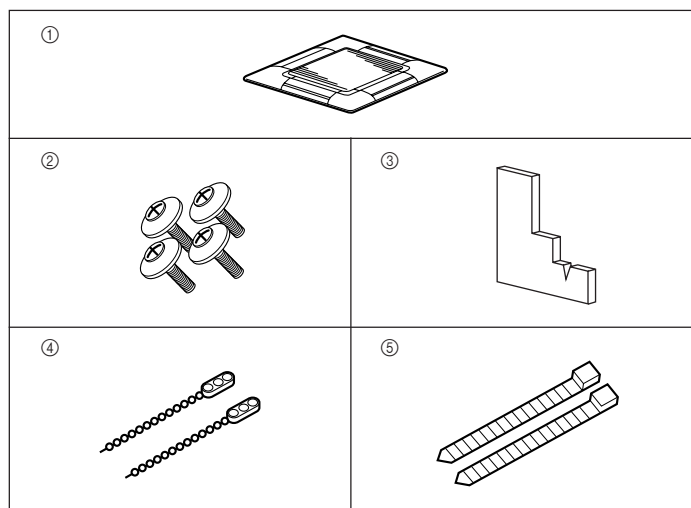

Fig. 8-1
8.1. Check the grille accessories (Fig. 8-1)